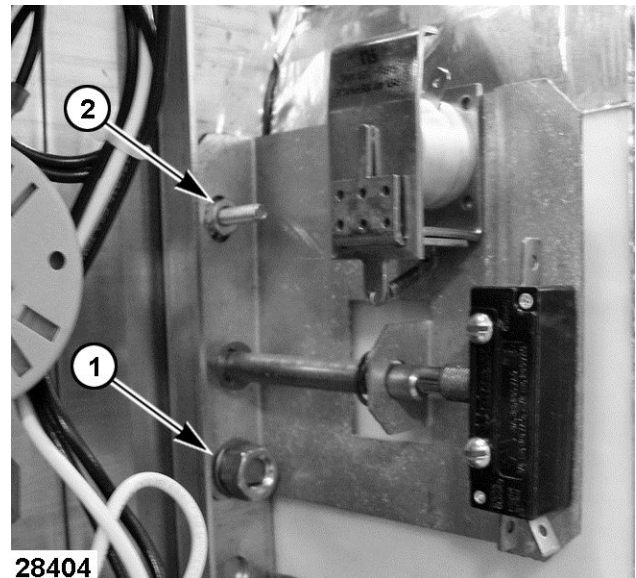

Fig. 84
4. Remove the mounting nut and lockwasher securing door striker [1] Fig. 84 and the door switch mounting bracket to front panel.
5. Remove the remaining mounting nut and lockwasher [2] Fig. 84 securing door switch mounting bracket to front panel then remove door switch mounting bracket with electrical components attached.